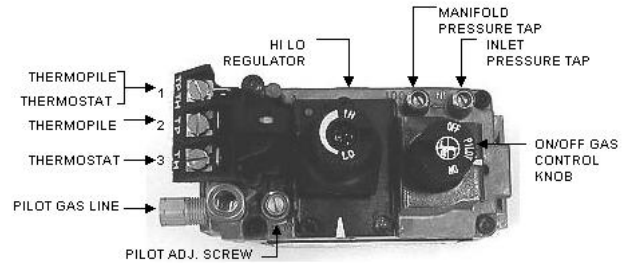

Figure 7: Gas Valve
5. Turn Gas Cock Dial Counterclockwise to "PILOT" position (see Figure 7: Gas Valve).
12. To reduce heat output, turn Hi/Lo Knob counterclockwise to desired temperature (see Figure 7: Gas Valve). Heat output can be reduced by up to 11,000 BTUH (1/3). Blower can also be turned down.
2. For complete shutdown turn Gas Cock Dial (see Figure 7: Gas Valve) to "OFF".